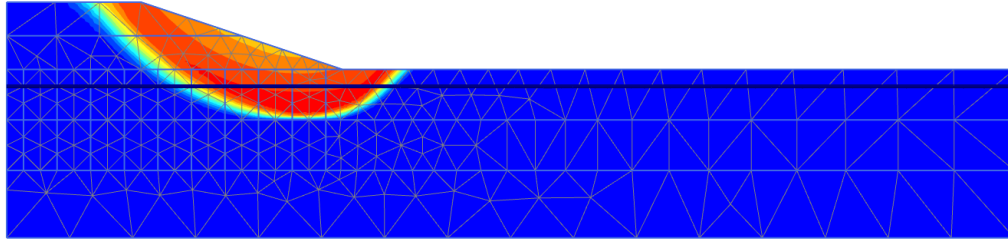

Figure 123: Shadings of the total displacement increments indicating the most applicable failure mechanism of the embankment in the final stage
3. Change the presentation from **Arrows** to **Shadings** . The resulting plots shown in Figure 123 (on page 141) gives a good impression of the failure mechanisms. The magnitude of the displacement increments is not relevant.